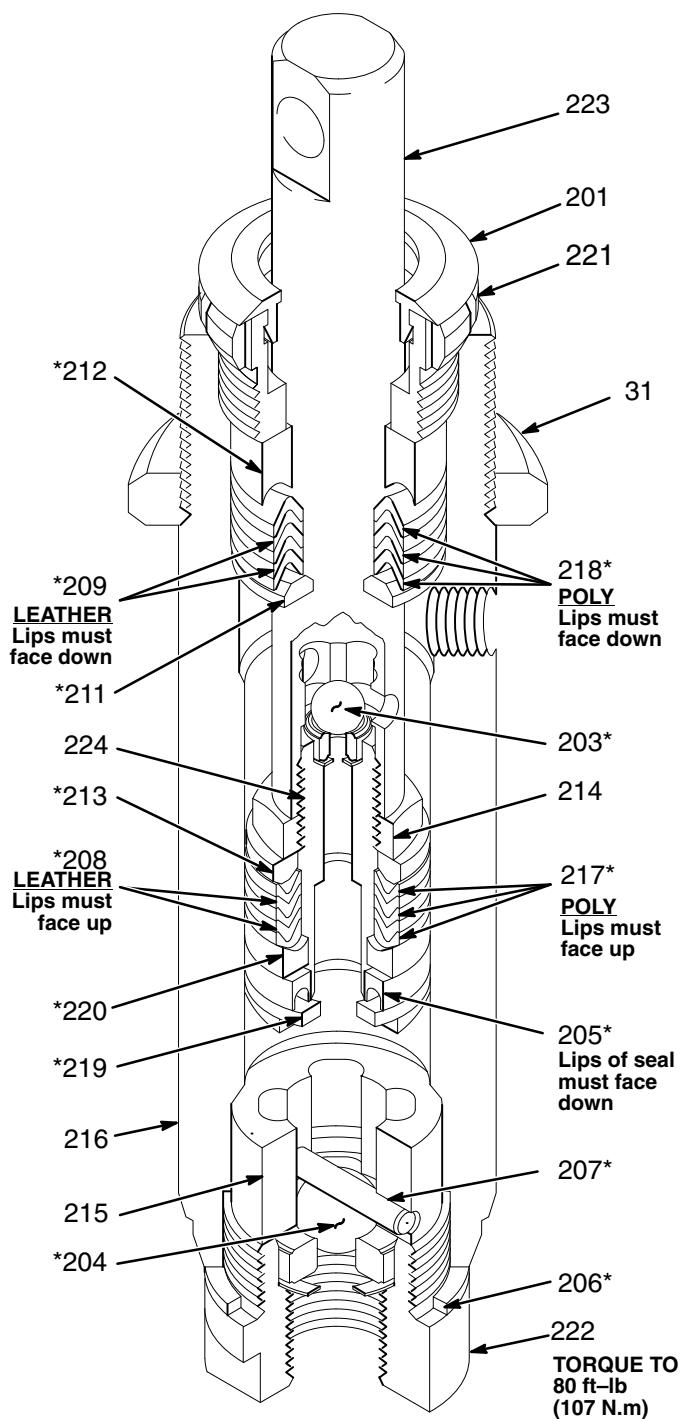

Fig 14
Disassembly. See Fig 14, except where noted.
- B. Clean all parts thoroughly. Check the outside of the piston rod (223) and the inside of the cylinder (216) for scoring or scratches, which prevent the packings from sealing properly. Replace all worn parts.
- C. Alternate polyethylene and leather packings as shown in Fig 14. Notice that:
1. Stack the backup washer (219*), U-cup seal (205*) *lips down*, and female gland (220*), alternate the polyethylene and leather v-packings (217*, 208*) *lips up*, and stack the male gland (213*) onto the piston valve (224). See Fig 14.
6. Loosely install the packing nut (221) and plug (201).
7. Insert the oiled piston rod (223) into the bottom of the cylinder.
8. Assemble the intake valve. Use a new gasket (206*). Screw the valve into the cylinder and tighten to 80 ft-lb (107 N.m). See Fig 14.
9. Screw down the cylinder locknut (31) until it is finger tight at the bottom of the external cylinder threads. See Fig 14.
5. One at a time, stack these parts into the top of the cylinder (216): male gland (211*), alternately the polyethylene and leather v-packings (218*, 209*) *lips down*, female gland (212*). See Fig 14.